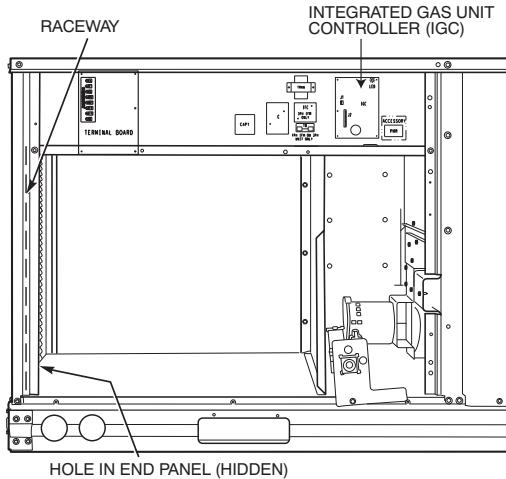
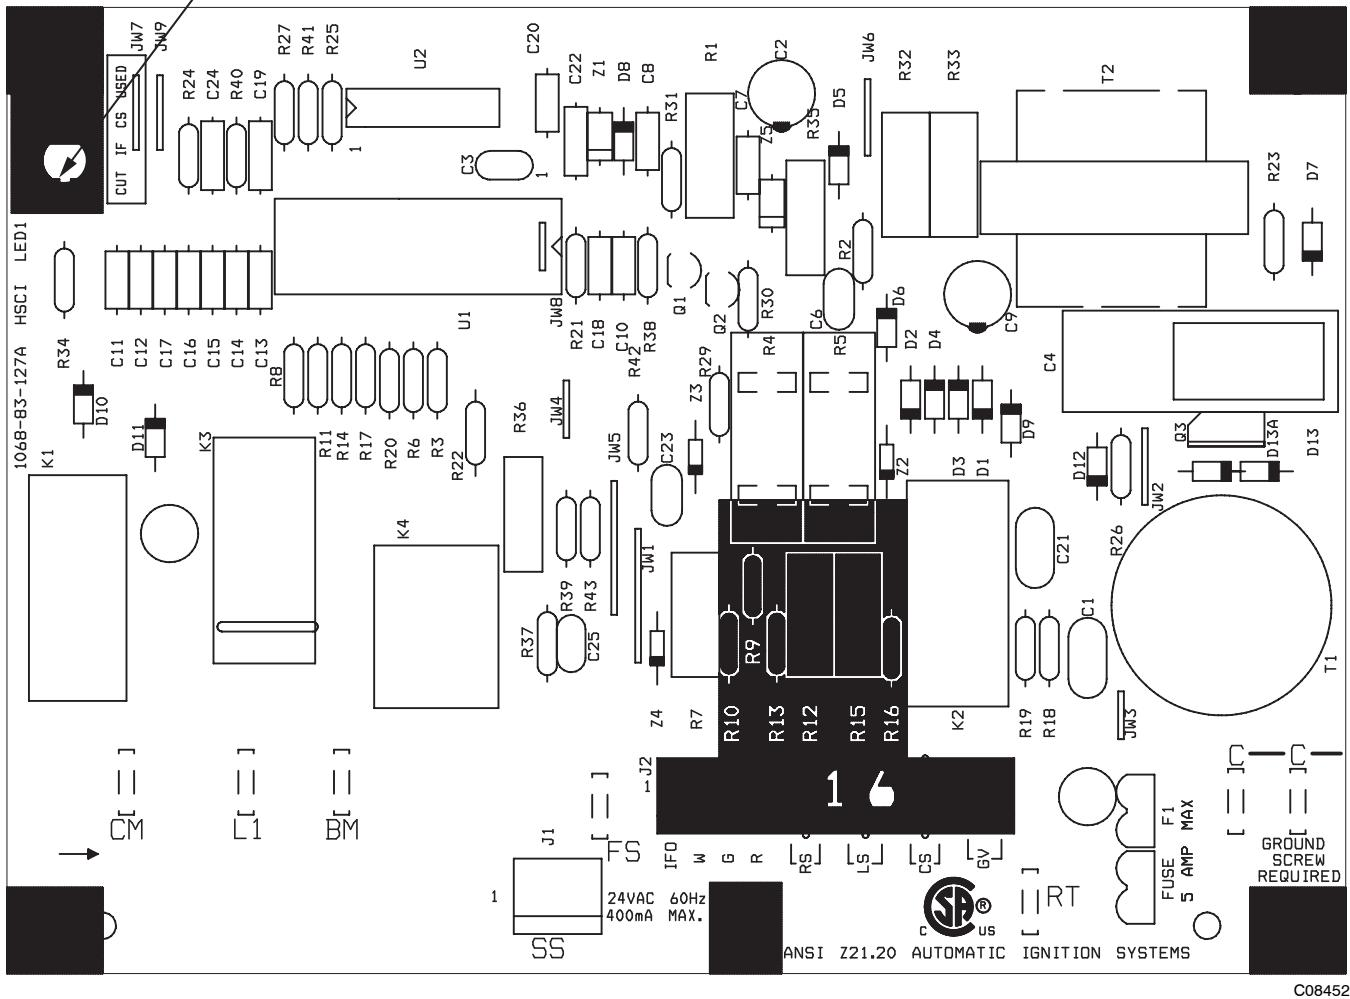

Fig. 64 - Unit Control Box/IGC Location
Fig. 69 - Integrated Gas Control (IGC) Board
- Remove igniter wires and sensor wires at the Integrated Gas Unit Controller (IGC). See Fig. 64.
Unit is equipped with a direct spark ignition 100% lockout system. Integrated Gas Unit Controller (IGC) is located in the control box. See Fig. 64. The IGC contains a self-diagnostic LED (light-emitting diode). A single LED (see Fig. 69) on the IGC provides a visual display of operational or sequential problems when the power supply is uninterrupted.